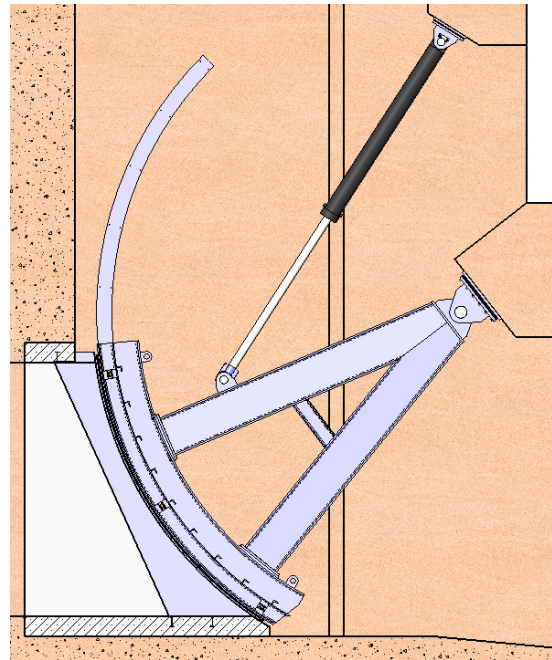

fig. 12
- Mount the hydraulic cylinders on the stopboard, extend the spindles to the maximum point and spot weld the fastenings of the cylinders on the bases embedded in the civil engineering work (fig. 12).
- Position the stopboard in closed position and reassemble the fastening of the hydraulic cylinders to the civil engineering work (fig. 12).